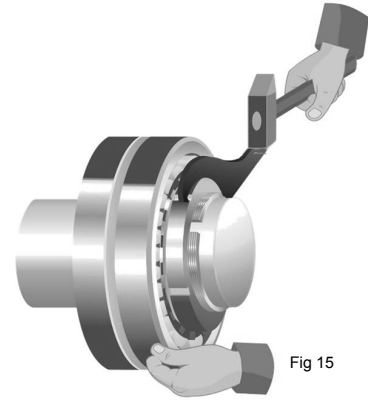

Fig 15
**7A. Spanner & Wrench Method:** For smaller bearings, generally below 6-inch shaft diameter, a spanner wrench and hammer are normal and likely enough to properly mount the bearing (Fig. 15). For larger sizes, consider using a Hydraulic Nut or Locknut with Mounting Screws. Measure clearance frequently during the tightening process. Tighten the bearing to the recommended final internal clearance. (As a guide, the Lock Nut will rotate approximately 1/3 of a turn further from the hand tight position. Recognize the "hand tightness feel" varies by installer. See Pg. 7 (Tables 4 & 5) concerning expected nut rotation during tightening). Once the final recommended clearance is achieved, remove the Lock Nut and install the Lock Washer between the bearing and re-tighten the Lock Nut.